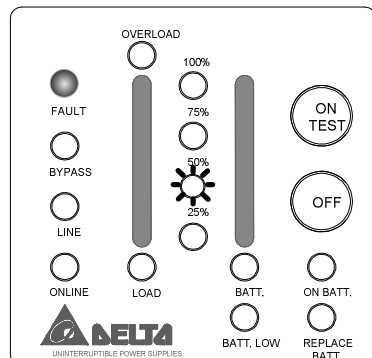

Figure 3-15 (Inverter U.V.P.)
- ✓ When under (or over) voltage is happened in the UPS output. This kind of fault will be detected by the microprocessor in the UPS and called “**U.V.P**” (“**O.V.P**”). (See Figure 3-15 and 3-16.)